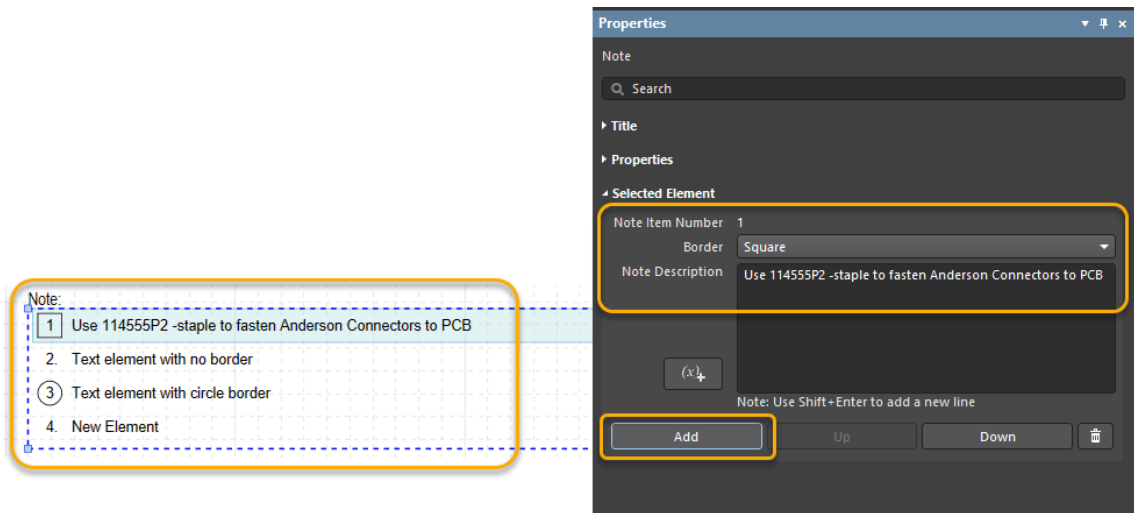

Figure 8 Note
20. Configure **Note 1**, as seen at Figure 8.